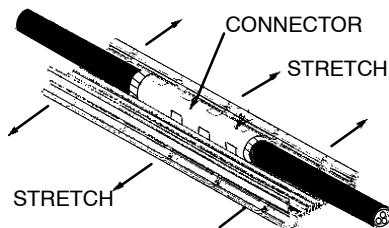

FIGURE 4
4. Prestretch gel wrap sleeve as shown in Figure 4.